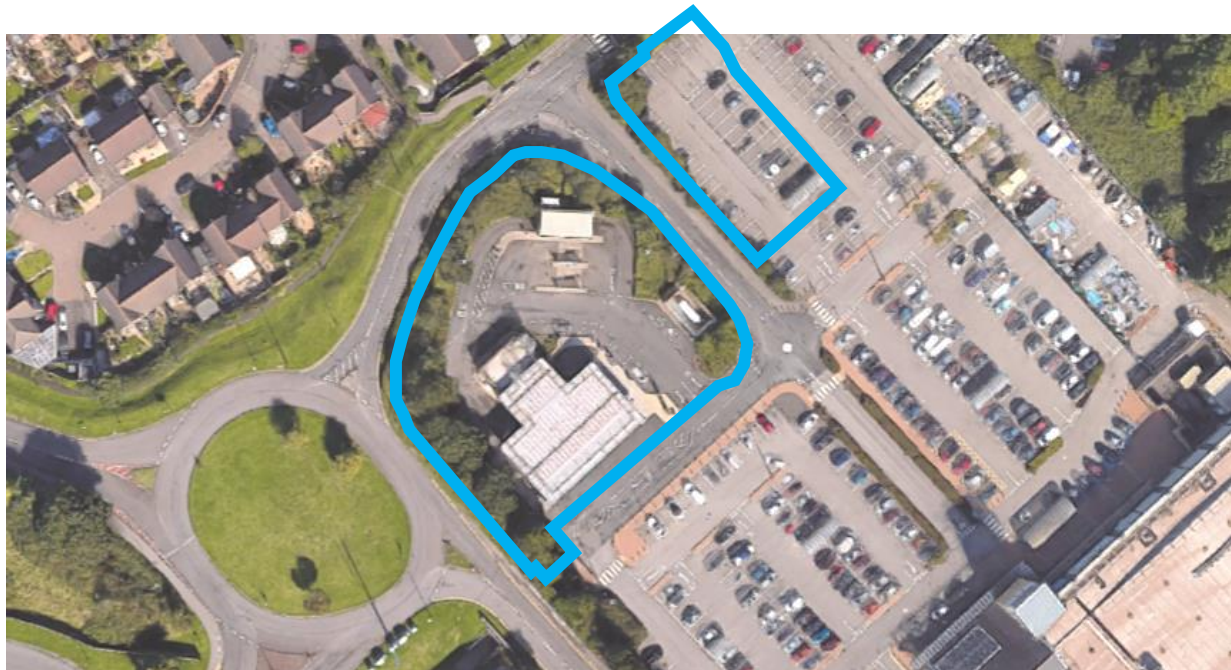

Fig. 1
- 2.3 The site is generally flat. See Fig. 1 for aerial photograph.